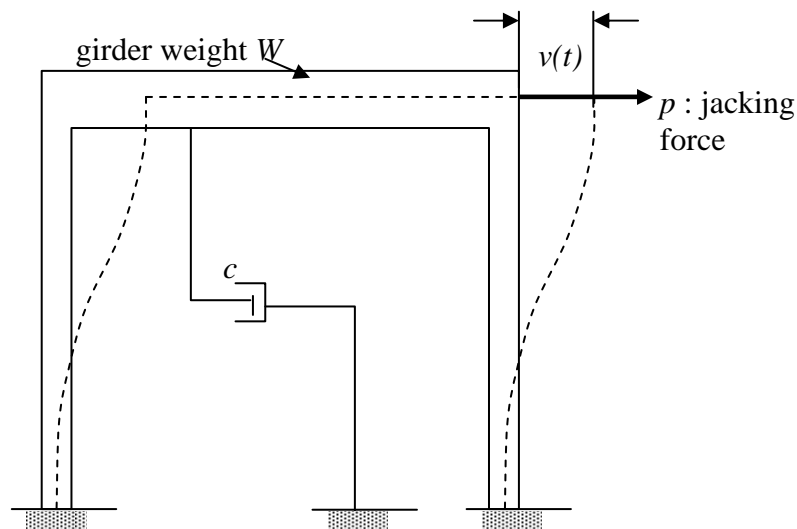

Figure 7
c) A free vibration test has been carried out on the frame as shown in Figure 7. It is found that a lateral jacking force of 100kN produces a 15mm lateral displacement of the girder. When the girder is instantaneously released from this initial position, it is observed that the time recorded for the frame to complete four cycles is 4s and the amplitude of vibration after four cycles is 2.5mm. Based on the data given above and neglecting the mass of the two supporting columns, compute :